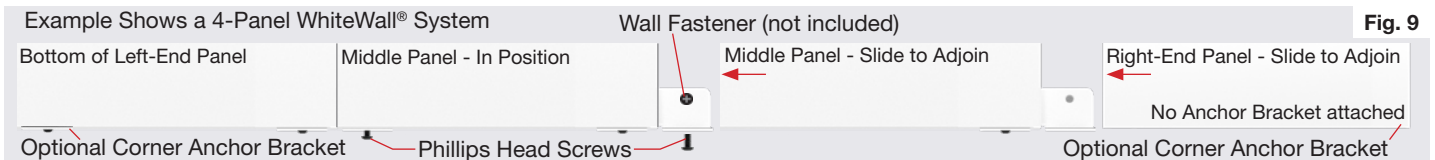

Fig. 9
- **Install Remaining Panels**—Slide panels to adjoin each previous panel and fasten its Anchor Bracket to the wall. Connect all panels by fastening Phillips Screws through the right panel slot of the Anchor Brackets (Fig. 9).